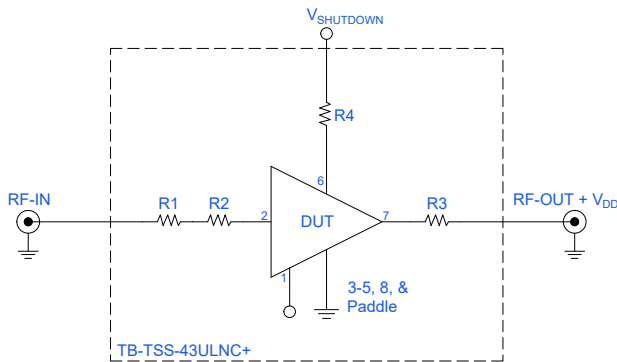

Figure 2. TSS-43ULN+ Evaluation and Application Circuit
1. Tested in Mini-Circuits Characterization Test/Evaluation Board TB-TSS-43ULNC+. See Figure 2. Board loss de-embedded to the device.
Note: The following data was taken on the Mini-Circuits Characterization Test Board TB-TSS-43ULNC+ (Figure 2). All data taken at nominal condition of $V_{DD} = +5$ V and at $V_{SHUTDOWN} = 0$ V unless noted otherwise.
Note: The following data was taken on the Mini-Circuits Characterization Test Board TB-TSS-43ULNC+ (Figure 2). All data taken at nominal condition of $V_{DD} = +5\text{ V}$ and at $V_{SHUTDOWN} = 0\text{ V}$ unless noted otherwise.
Note: The following data was taken on the Mini-Circuits Characterization Test Board TB-TSS-43ULNC+ (Figure 2). All data taken at $V_{SHUTDOWN} = 0\text{ V}$ unless noted otherwise.